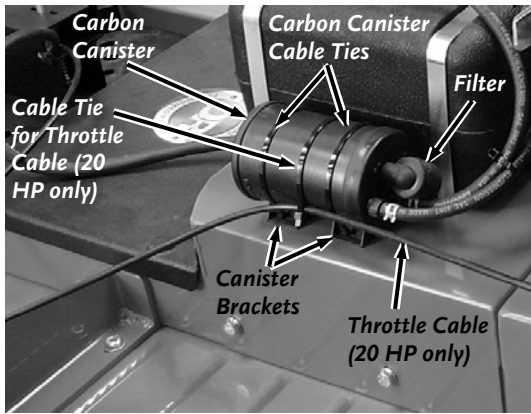

Figure 37
1. Cut the Cable Tie that is securing the Throttle Cable to the Carbon canister (**Figure 37**).